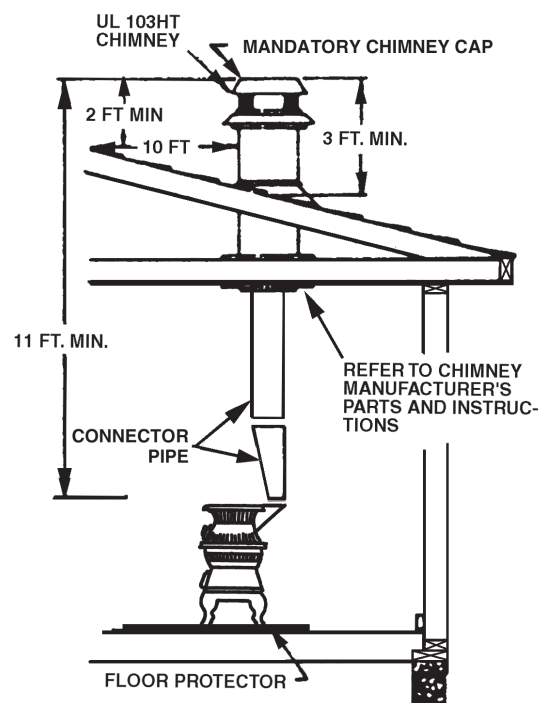

Fig. 10 - Chimney Construction Through Attic Space
Your stove itself does not create draft. Draft is provided by the chimney. To achieve proper draft your chimney must meet the three minimum height requirements detailed in figures 10–13. A minimum of 0.05 w.c. (measured in water column) is required for proper drafting to prevent back puffing, smoke spillage, and to maximize performance. (Gauges to measure draft are readily available at stove stores and are economical to rent or purchase.)
4. Install the stovepipe into the thimble as far as possible without extending past the flue lining (see figures 10 on page 6).